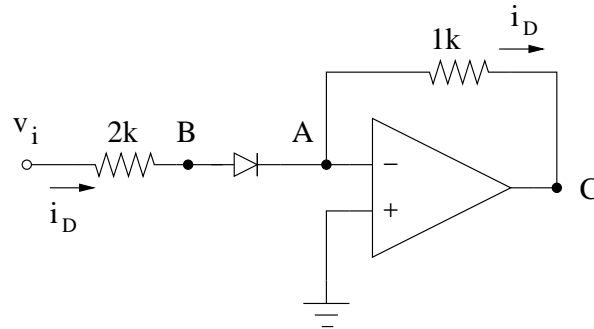

Fig. 2
3) Build the circuit of Fig. 2 above with a 741 OpAmp chip. The chip should be powered with ± 15 V supplies. You will work with OpAmp in ECE100. This type of chip has two important properties which are relevant to this experiment. One, the current flowing into chip input terminals (marked by $-$ and $+$ signs) is very small and can be ignored. Second, if we operate this chip in the negative feedback mode (as is done in the circuit of Fig. 2), the voltages at “inverting” terminal (marked by $-$) and “non-inverting” terminal (marked by $+$) are almost equal.